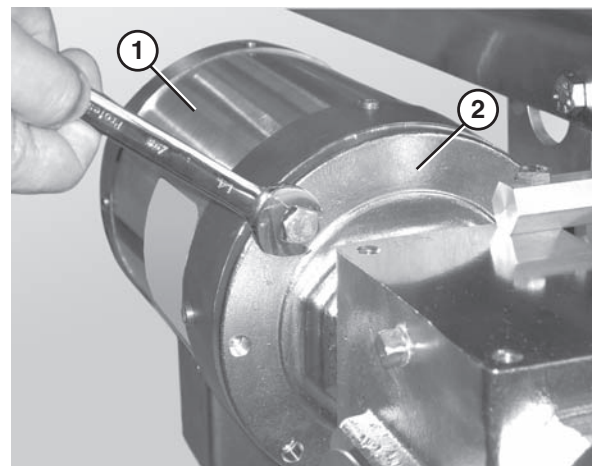

Figure 55
2. Remove the bolts that connect the motor to the drive assembly (**Figure 55**).
3. Remove the motor (**Figure 55, item 1**) from the drive assembly (**Figure 55, item 2**).